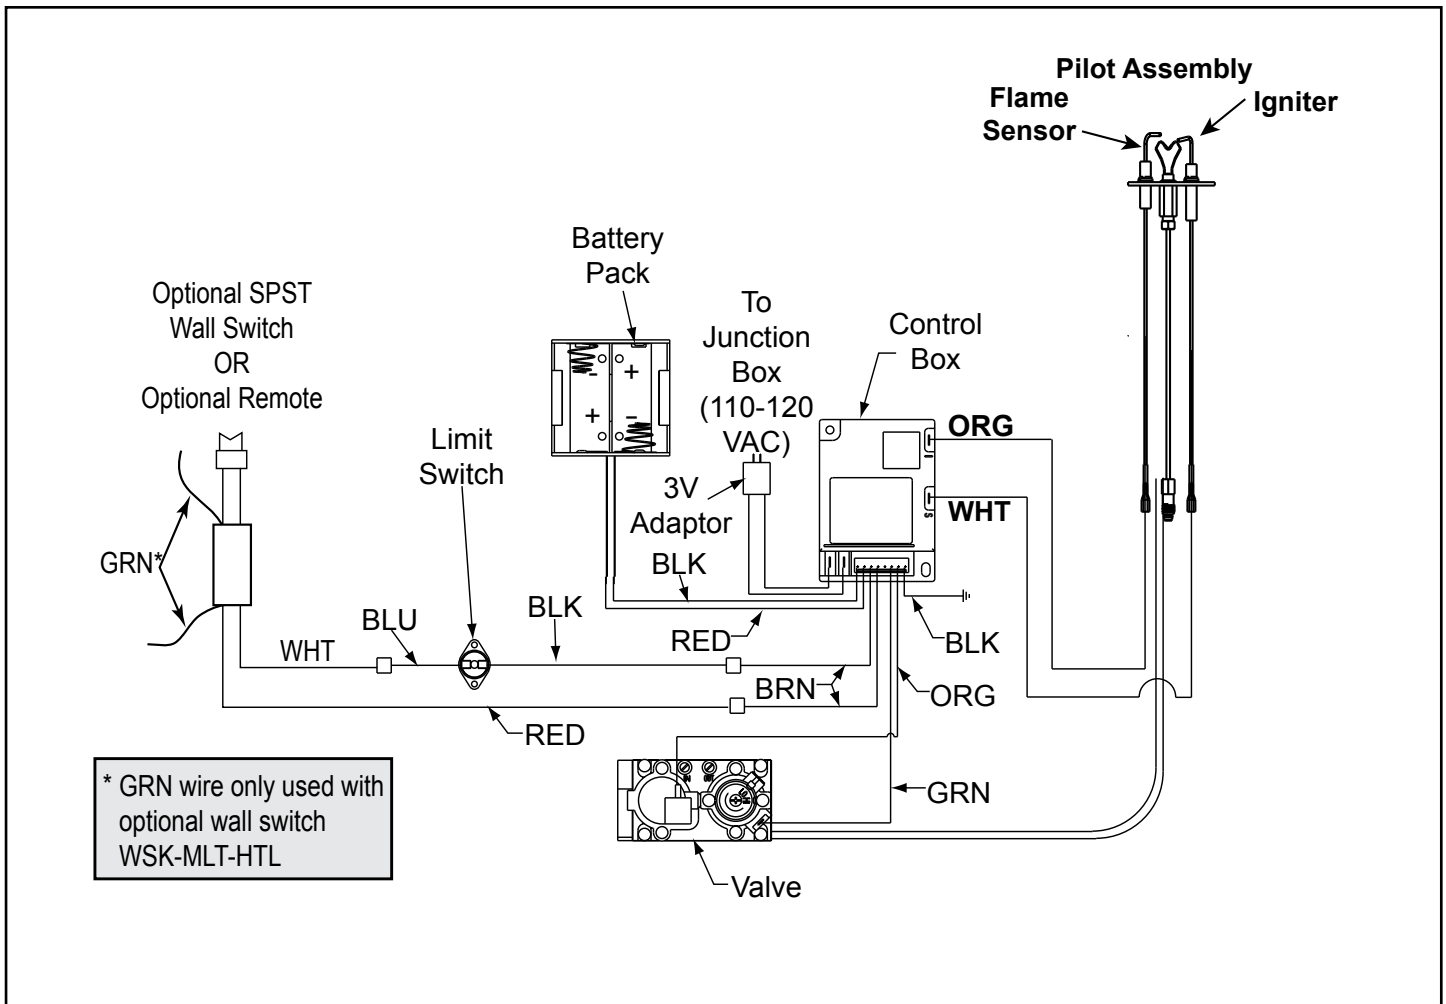

Figure 9.2 Intellifire Pilot Ignition (IPI) Wiring Diagram
- Refer to Figure 9.2, Intellifire Pilot Ignition (IPI) Wiring Diagram.